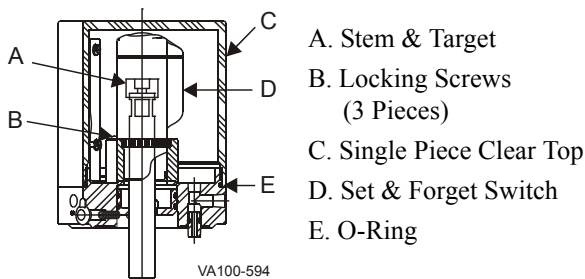

Figure 41: Control Top Switch Removal
4. Unscrew the single-piece clear top (Figure 41) and remove it.
6. To remove the Set & Forget switch, (Figure 41), disconnect wires then remove locking screws (Figure 41)
2. Install the locking screws (Figure 41) at three locations and hand-tighten. Be careful not to over-tighten the locking screws.
7. Ensure that the cover top o-ring (Figure 41) is in place. Replace if damaged.
8. Screw the single-piece, clear top (Figure 41) onto the module base until the top bottoms out, being careful not to crimp the wiring.